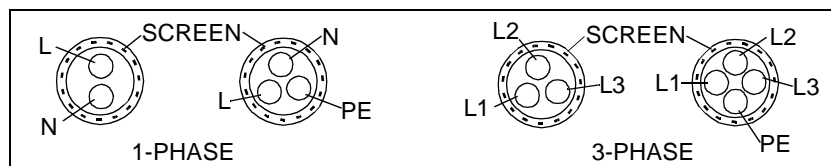

Figure 3-1 Permissible mains cables.
**Note!** A three-conductor screened cable (single phase and neutral with protective earth) or four-conductor (three-phase with protective earth) are recommended for the mains cabling, see Figure 3-1. Dimension the cables and fuses in accordance with the input/output current. Refer to Table 3-1. *Always pay attention to local legislation* when sizing the cables and fuses.
Connect the mains and motor cables according to the layout in figure 3-1, page 16.